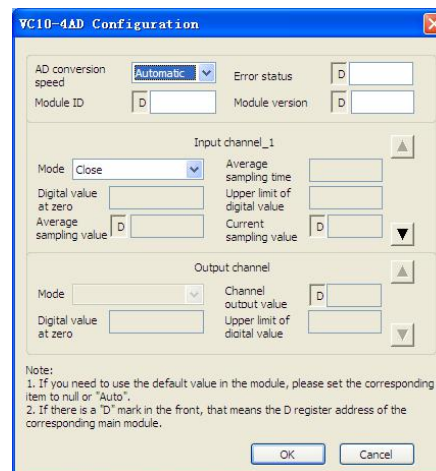

Figure 4-2 CH1 setting interface
8. BFM#4094: module software version, displayed automatically as **Module Version in VC10-4AD Configuration** dialogue box of the host software, as shown in Figure 4-2.